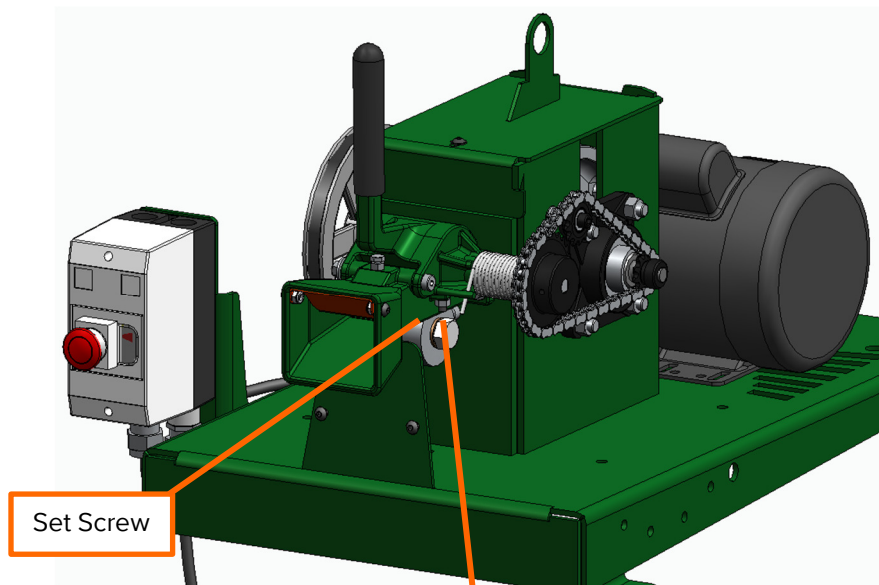

Figure 8a (Guarding removed for clarity)
Step 4	Turn the screw counterclockwise (Figures 8a, 8b and 8c) to lower the upper feed roll until it contacts the lower feedroll.